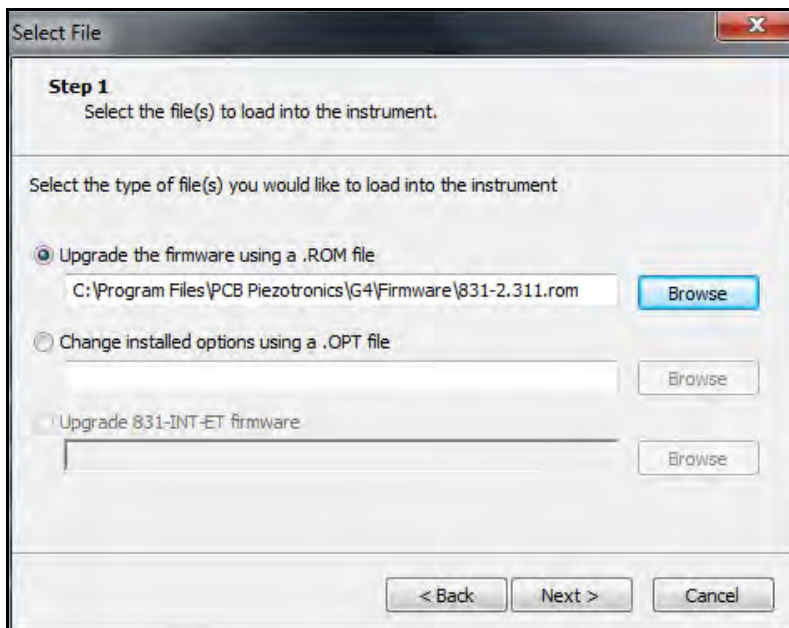

FIGURE 26-4 Select File Menu
Step 6 Click **Next** to proceed with the upgrade, which will display the Select File menu shown in FIGURE 26-4.
The procedure for changing the options to the Model 831 is very similar to upgrading the firmware, as described in "Upgrading Model 831 Firmware" on page 26-2. Follow the instructions up until the Select File Menu shown in FIGURE 26-4 "Select File Menu" appears.